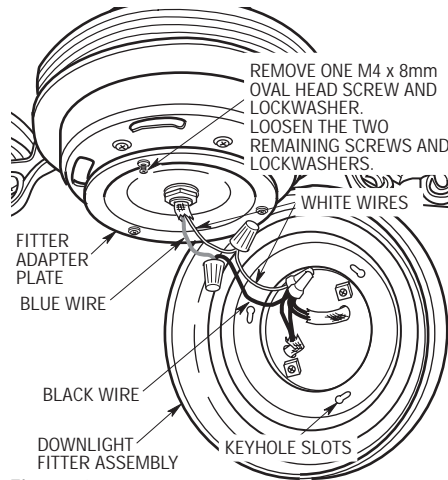

Figure 13
- 7. Using a wire connector (supplied), connect the black light fitter wire to the blue motor wire (Figure 13). Connect the white fitter wire to the white motor wire.